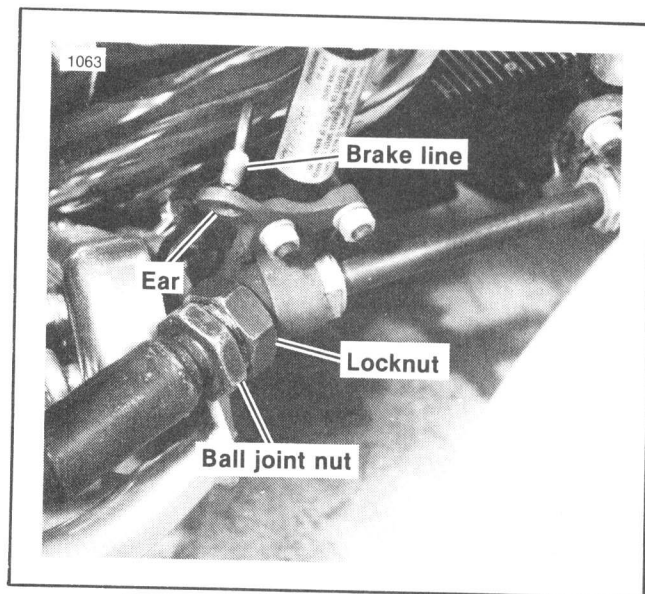

Figure 6-2. Front Lower Connection
3. See Figure 6-2. Place front ball joint in front ball joint connection and using SIDECAR CONNECTION NUT WRENCH, Part No. HD-94536-18, tighten ball joint nut until it bottoms, then back off 1/8 turn. Hold nut in this position and tighten ball joint locknut securely.
1. See Figure 6-2. Install flexible hose, supplied with sidecar, through ear and connect to brake line.